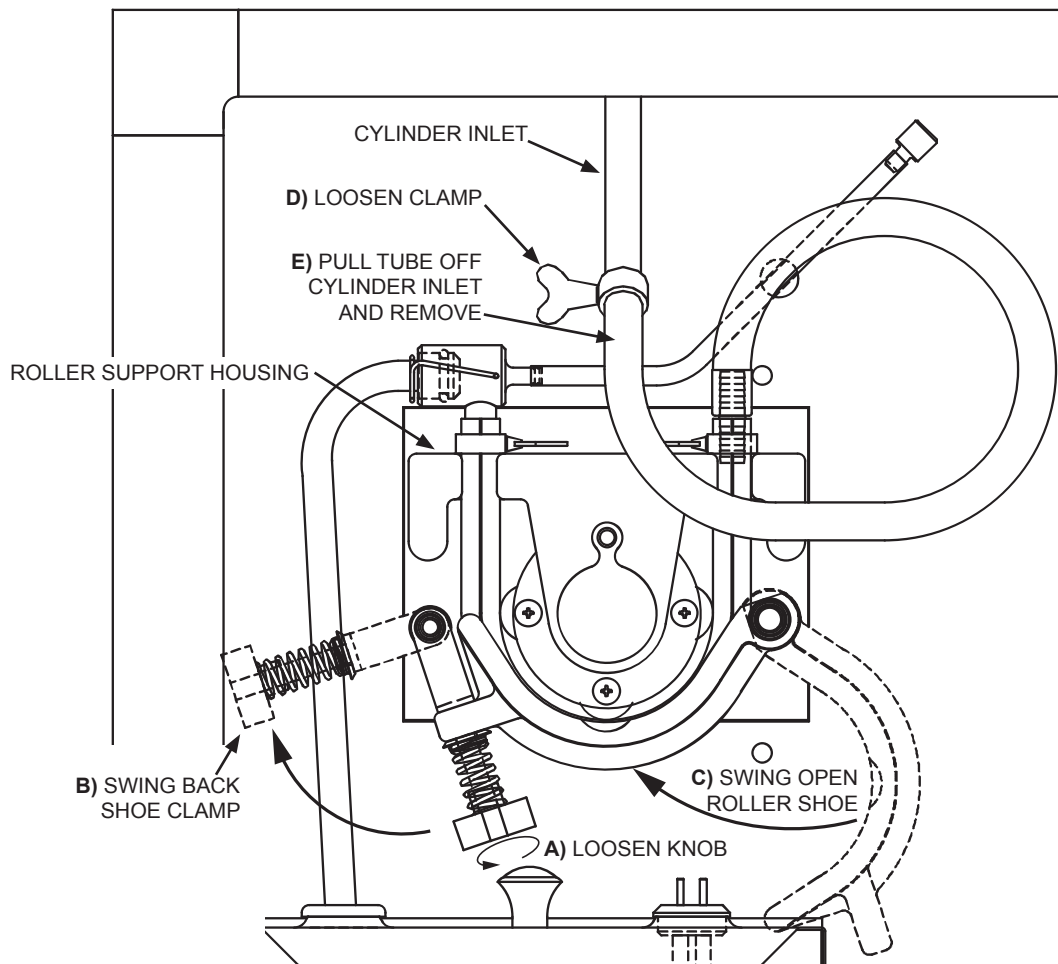

Figure 8-7 MTS
18. Refer to figure 8-7. Install the MTS hose assembly by first placing the clamp next to the braided hose, above the roller bearing support on the right side and push hose into slot. Place the transfer hose under the rollers. While holding the pickup tube stretch the hose so the left hand clamp is above the roller bearing support and push the hose into the slot.
19. Check to ensure the transfer hose is straight and centered on the roller assembly making sure the locating line is facing out. The line should be in the same position at the inlet and outlet guides of the roller bearing support, as shown in figure 8-7.